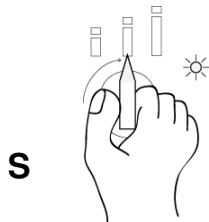

Fig.30
- 4- Rotate the selector on position "S" and choose one of the available cycles. (Fig.30)